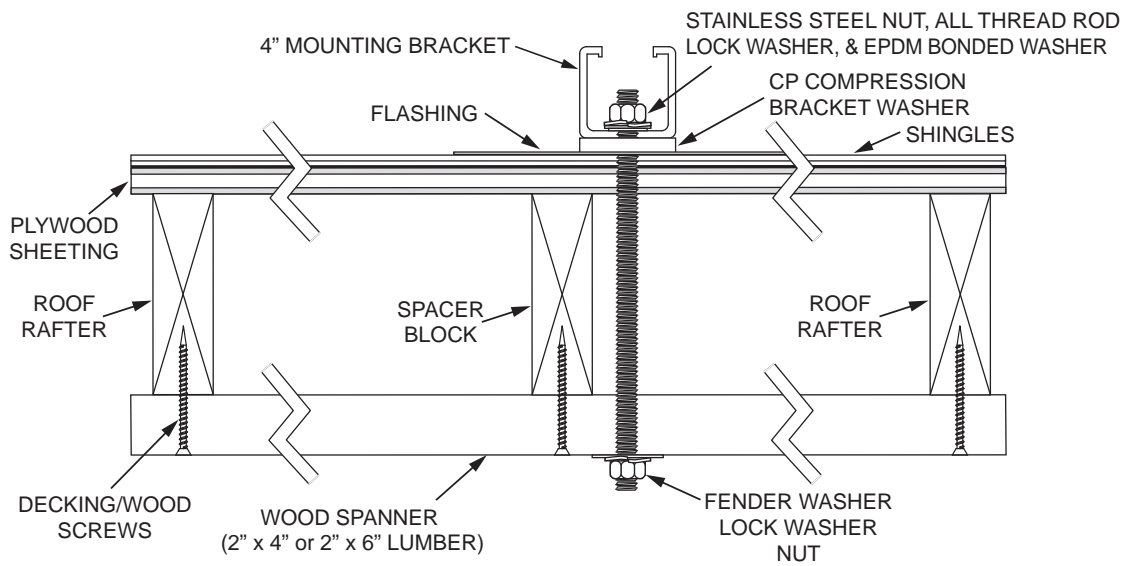

Figure 16.
crawl space drill a 5/16" hole through each spanner and insert the all-thread through it. Secure each spanner to the rafters with decking or wood screws. See Figure 16.
4. Fabricate spacer blocks, one for each mounting bracket, using a 2" x 4" or similar lumber the same width of the rafter next to each all-thread. Place spacer blocks next to the all-thread between the spanner and roof. Secure each spacer block to the spanners with decking or wood screws. Spacer blocks are necessary to avoid deformation of the roof. See Figure 16.